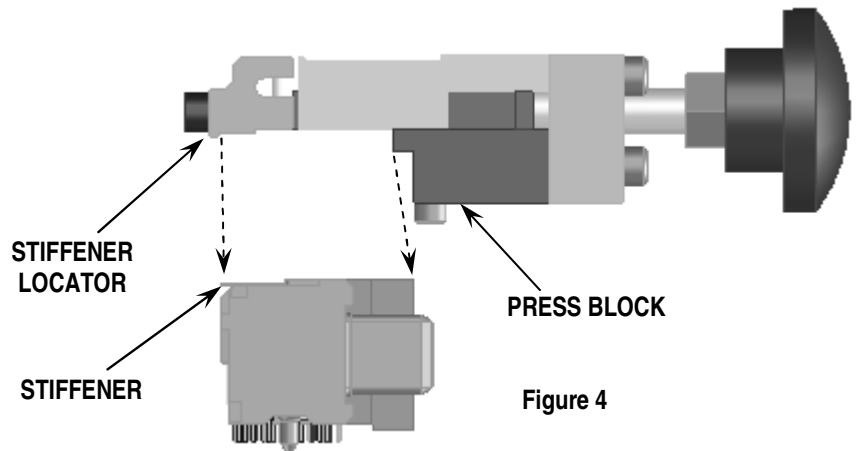

Figure 4
2. After the metal stiffener is positioned correctly on the module assembly, place the Stiffener Removal Tool on the connectors as shown in Figure 4. The installation of the metal stiffener does not use the removal pins.
3. Position the tool so it will fit over the connectors. Turn the knob in either direction allowing the tool to open or close enough so the module assembly fits between the press block and the stiffener locator. The stiffener locator should touch the straight edge of the metal stiffener. See Figure 4.